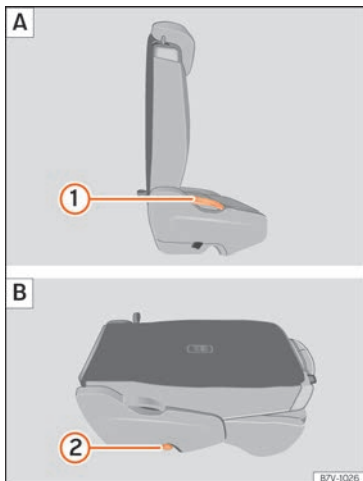

Fig. 166 Second seat row: folding the rear seat A, rear seat as load space B.
- Remove objects from the footwell in front of and behind the rear seat »» ❶.
- Pull lever »» Fig. 166 ❶ back and fold the seat backrest forwards. The complete rear seat folds forward »» ❷.
- Fold the seat backrest forwards until it locks into the load surface position »» Fig. 166 B.
- Pull lever »» Fig. 166 ① upwards and place the seat backrests in vertical position. The entire seat folds backwards.